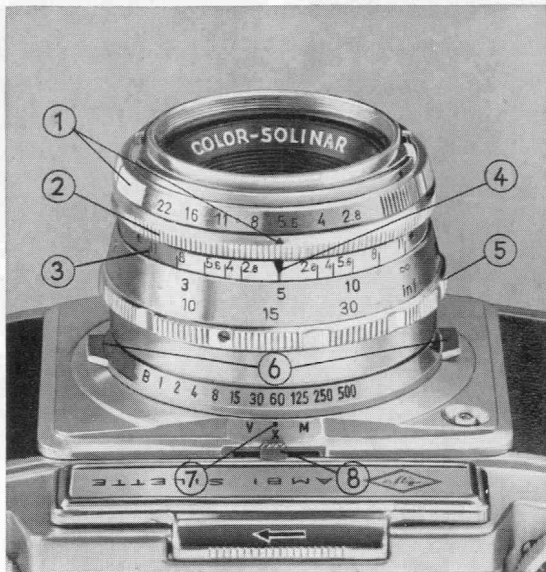

Fig. 19
An indication of the depth of field is also given by the depth-of-field scale ③ (Fig. 19) on the focusing ring. For example in Fig. 19 the distance focused on is 15 feet (5 m.). The stop numbers are equally spaced on either side of the central index mark ④. If then the lens is stopped down to f/5.6, the distances on the focusing scale corresponding to the two f/5.6 readings on either side show the range of sharp focus for this stop and subject distance, viz. about 10 to 30 feet (3.30 to 10 m.).
*Two-Point Focusing* is the simplest and most convenient practical way of dealing with depth of field. The red point (between 8 and 11) on the stop scale is set against the index mark and one of the red figures on the focusing scale on the red index mark ④ (Fig. 19). The approximate depth of field is then as follows:
Use the first or second finger to rotate the setting ring by means of the finger grips until the required shutter speed comes opposite the index mark ⑦ (Fig. 19).
The Synchro Compur shutter is provided with delayed action (selftimer). The synchronizing lever ⑧ (Fig. 19) is set to "V" **which, however, can be done only after the shutter has been wound**, i. e. after the film wind lever has been operated. The time interval between the release being pressed and the operation of the shutter is about 8 seconds. The lever returns then automatically to X. If the lever will not remain on "V" this indicates that the film has not been moved on, i. e. the shutter
Most of the commercial flash bulbs can be used for two types of synchronization, i. e. the firing delay (time interval between making contact and firing of flash) can be altered by the shutter. It is thus possible to vary the shutter speeds as follows: With synchronizing lever ⑧ (Fig. 19) set